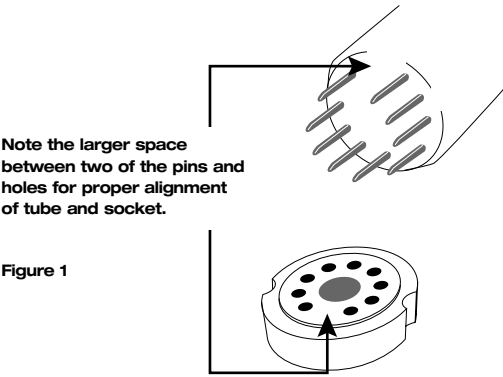
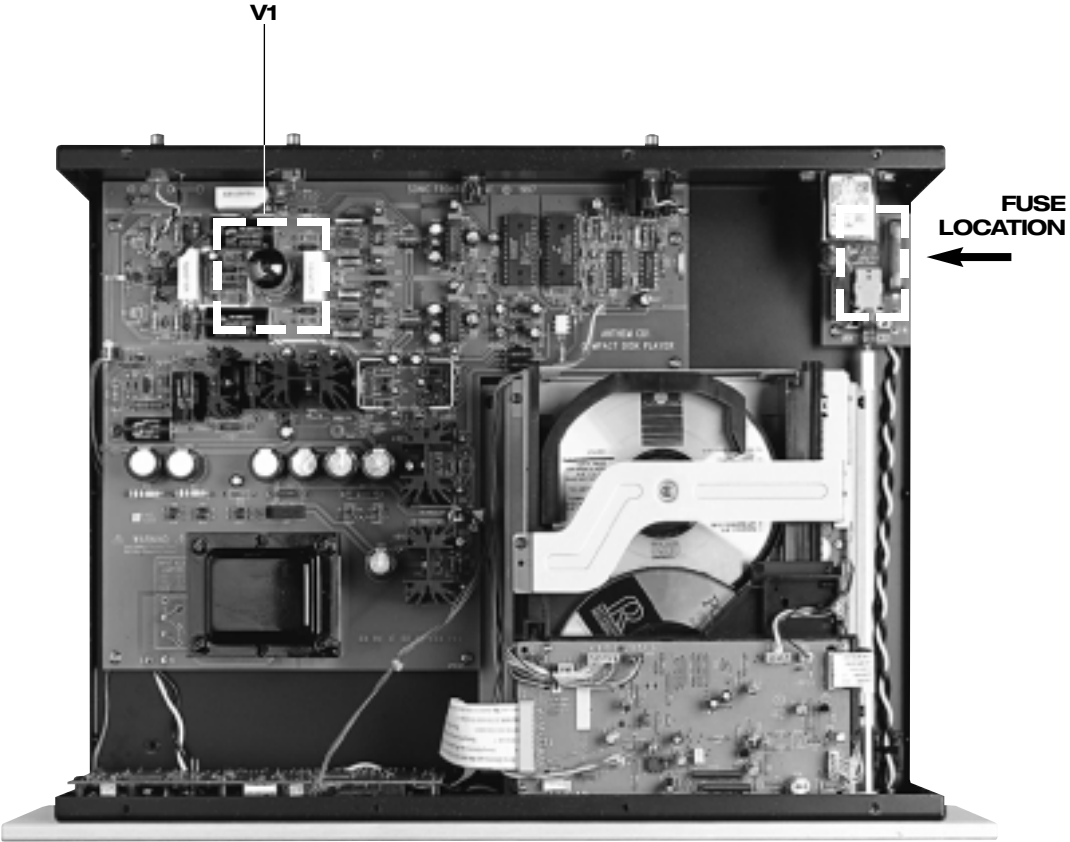

Figure 1
Figure 2 - Tube and Fuse Location
3. Noting the location of the tube socket in the top view photo (Figure 2) or directly on the PC Board. Once located, take the tube and inspect the pins, noting the larger space between two of the pins (see Figure 1). This space will match with the socket. Insert the tube into the tube socket, making sure all pins and pin holes are aligned. Do not force the tube into the socket. “Rock” the tube gently while pushing slowly until it is firmly seated.
1. Check that the AC Detachable Power Cord is plugged into the CD 1 Detachable Power Cord Socket (H) and is connected to a live source of AC power. For instance, if using a power bar, check that the bar is turned on.
- A “fast-blo” fuse, with a rating of 1 Amp/250 V (0.5 Amp/250 V for European and Asian versions), is installed on the circuit board under the soft plastic cover (see figure 2).
- The AC power fuse is intact and has not blown. If the fuse has blown, the thin metal conductor will have melted and the glass may appear “smoked”. If the fuse has blown, replace with a fuse of the same rating (1 Amp/250V fast-blo for 100 to 120 volt countries and .5 Amp/250V fast-blo for 220 to 240 volt countries). (See Figure 2.)